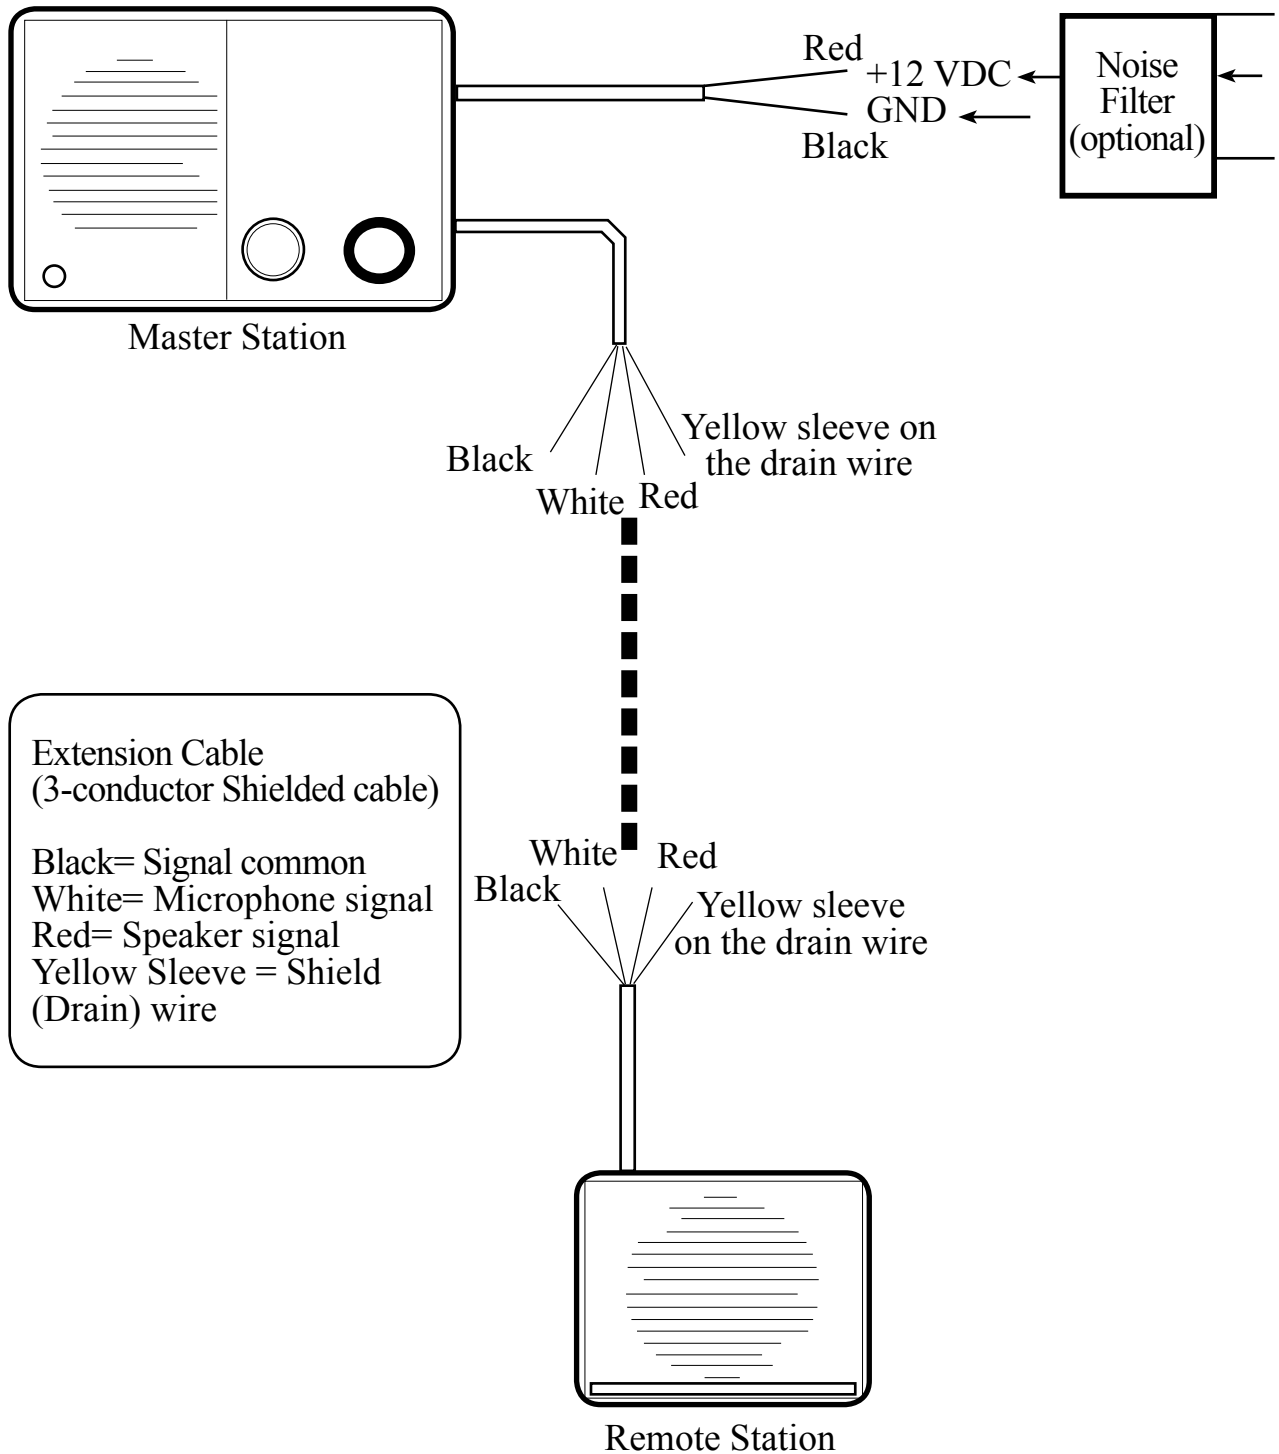

Figure 2. ICA100 Wiring
2. Connect station box four wires to cable. Refer to Figure 2 for wiring details.